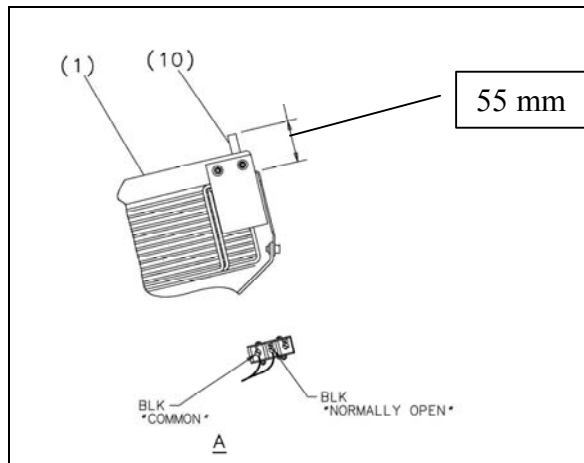

Figure 14. Limit Switch Height Adjustment
9. Per Figure 14, adjust limit switch height to 55 mm.
22. Place top covers onto gantry and verify limit switches engage. Referring to Figure 14, adjust as need to obtain positive actuation of the switches.